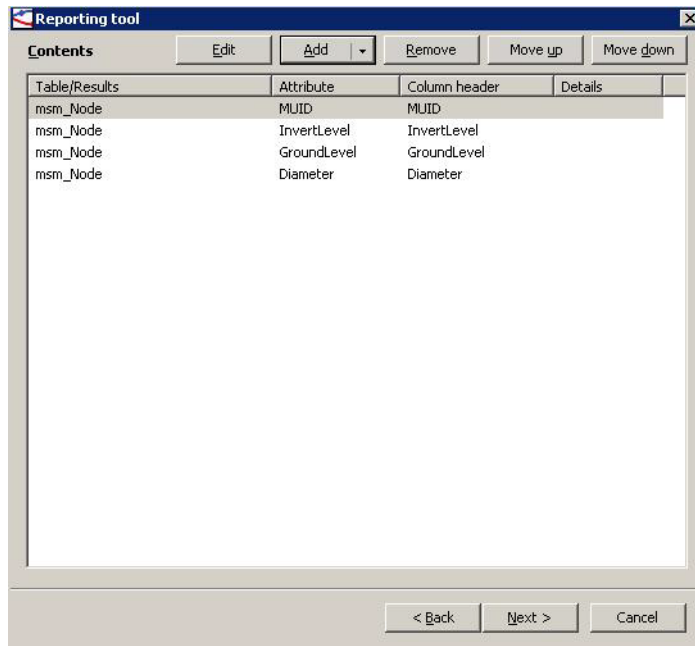

Figure 23.25 Information from tables as well as from result files can be added to the report.
- The 'Move up' and 'Move down' button allows to move the added columns in the report. The input specified as rows (see Figure 23.25) will be equal to the columns of the report.
An example of how the page looks after having specified some input from one of the MIKE URBAN tables is seen in Figure 23.25.